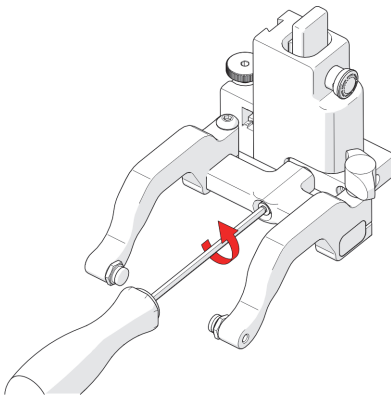

Figure 2-110 Remove yoke
1. Using the supplied 3 mm driver, unscrew the yoke (see Figure 2-110 on page 118).